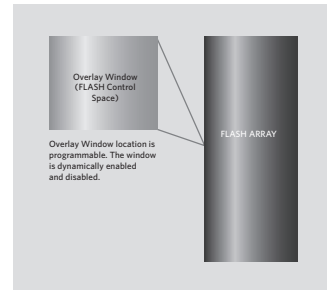

Figure 4: Flash control space management
Numonyx Velocity LP utilizes a dynamically allocated control space. The Overlay Window (OW) is a movable set of control registers which may be dynamically placed anywhere within the flash array space. (Figure 4) The flexibility of the OW allows system designers to place boot code anywhere within the flash array without concern about the logical location of the flash control interface. The Overlay Window Base